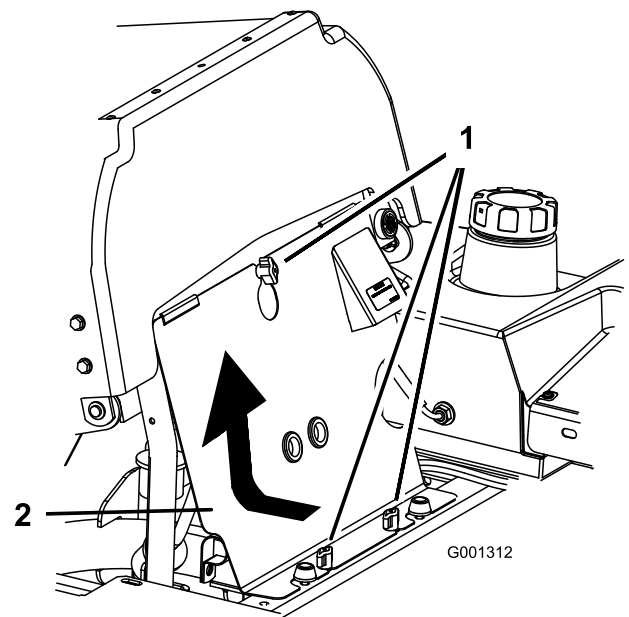

Figure 42
1. Tilt the seat forward and remove the front engine panel (Figure 42).